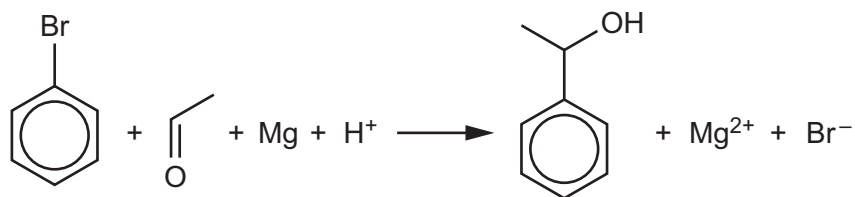

Fig. 1.3
- (i) The overall reaction can be represented as shown in Fig. 1.3.